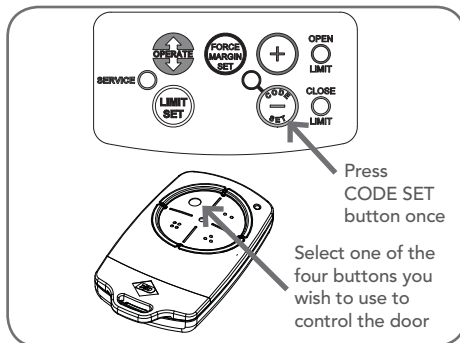

Fig. 8.1
- Press the CODE SET button and release. The CODE SET LED will illuminate to indicate the opener is in Code Learn mode. If a valid code is not stored within 15 seconds the opener will exit Code Learn (**Fig. 8.1**).